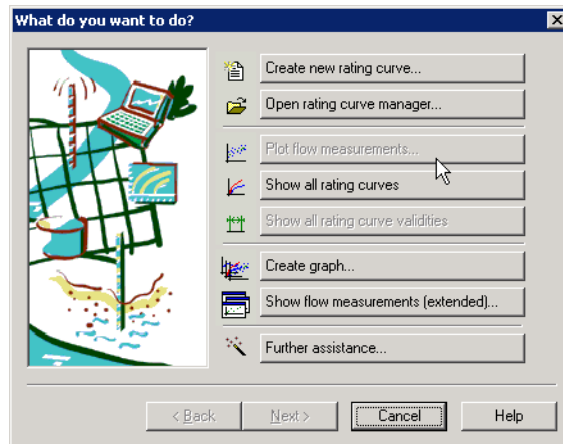

Fig. 201 Wizard: Start
- Choose in the wizard the top option (Create new rating curve or new version). The wizard guides you through the creation procedure (cf. Fig. 201, page 299).